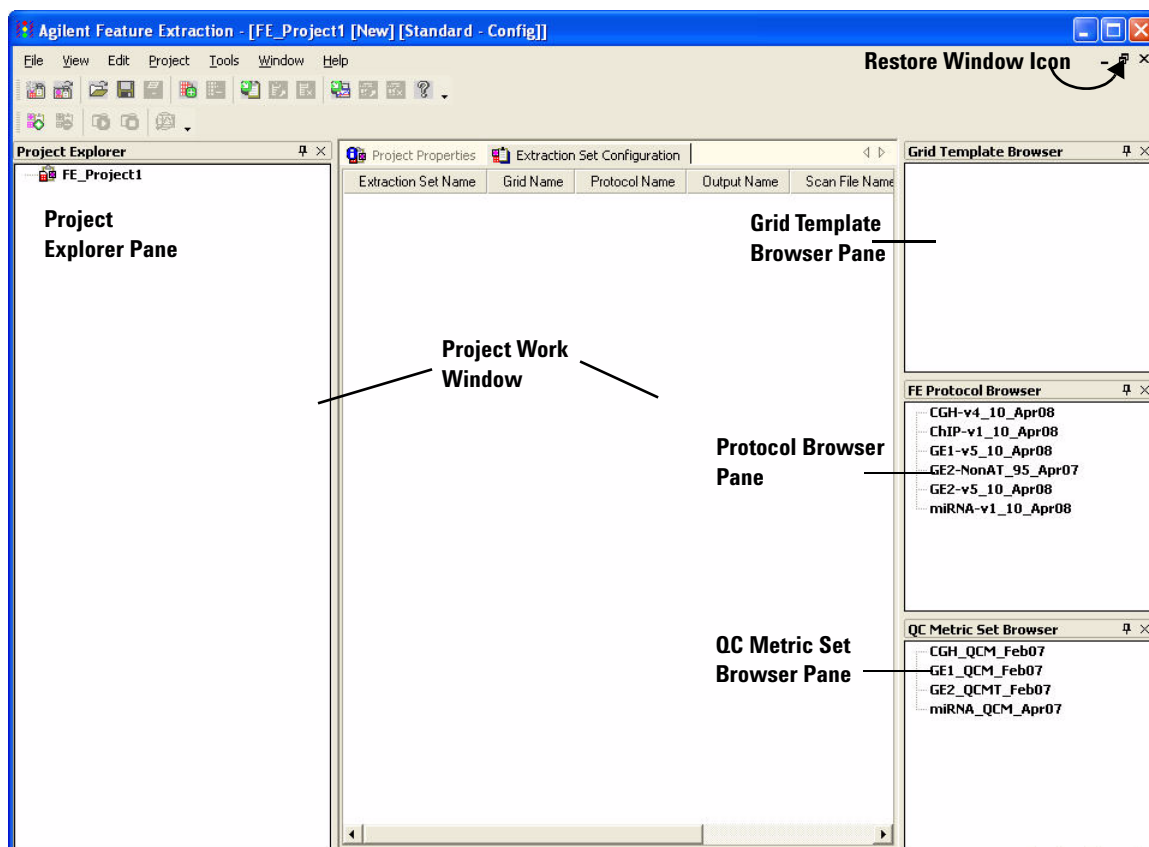

Figure 108 FE Standard Project Configuration window – default
- Click the **Restore Window** icon for the Project Work Window. See Figure 108.